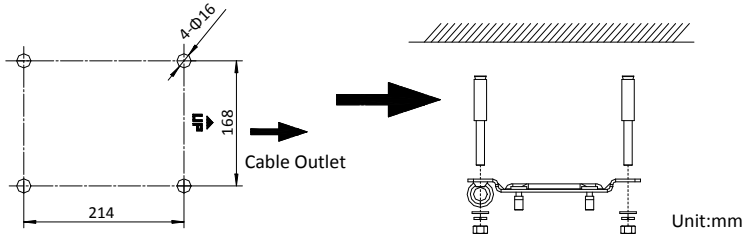

Figure 2-11 Install the Installation Plate
2. Insert the flag washer and the spring washer. Then tighten the four screws to secure the installation plate as shown in Figure 2-11.